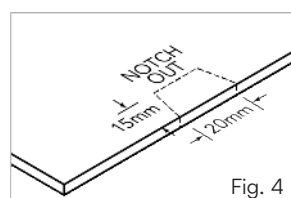

Fig. 4
- Cut off corners and notch edges as required to create clearance for screws (**Fig. 4, 5**). This is not required if the screws can be positioned in the gaps of the lattice.